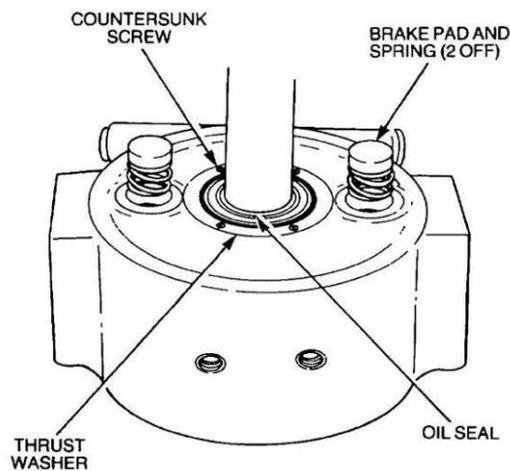

Figure 340 Removal of the Brake Pad
- h.** Remove the two brake pads and springs (Figure 340). Replace the pads if the overall thickness is 6 mm or less.
- n. Using a 5/32 in Allen key, remove the two countersunk screws securing the nylon thrust washer to the winch gear housing (Figure 340) and carefully prise the thrust washer from the housing. Discard the thrust washer.